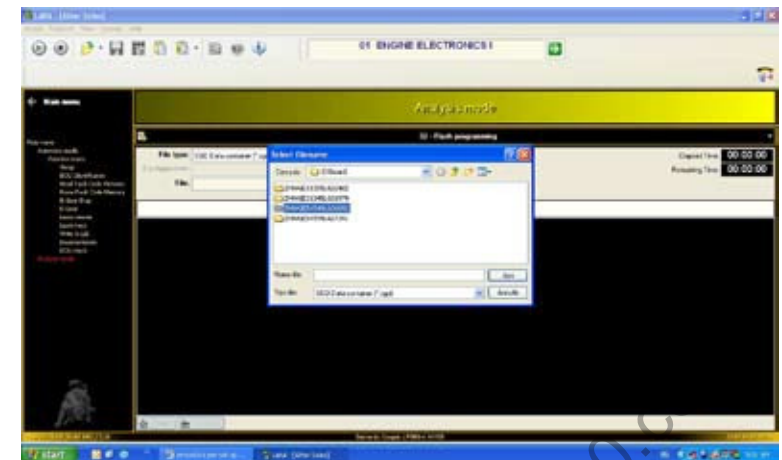

Fig.108
6. The system accesses the zip file folder (**Fig.108**).